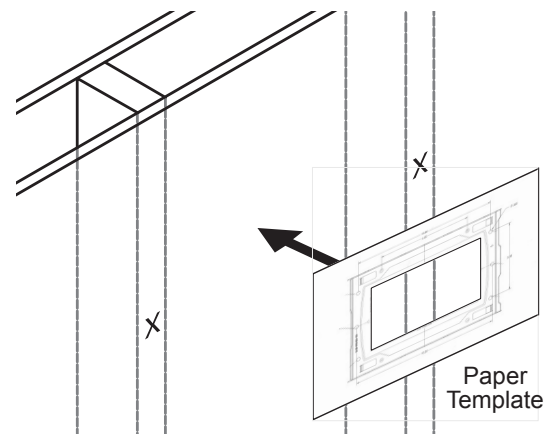

Figure 2
- 3 Place the paper template at the desired location between the studs (Figure 2).